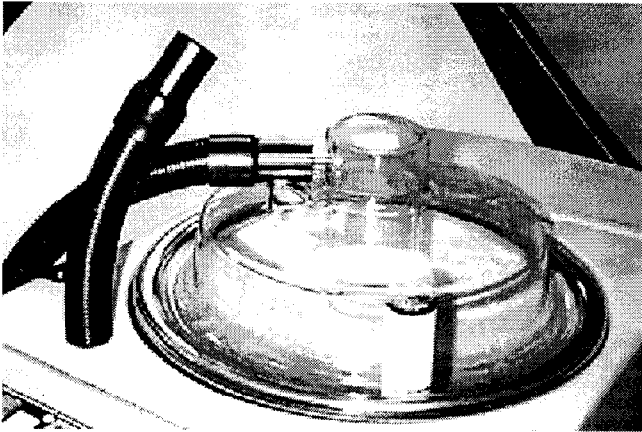

FIG. 16.
2. Disconnect vacuum hose from recovery dome and replace with extension vacuum hose. (Figure 16)